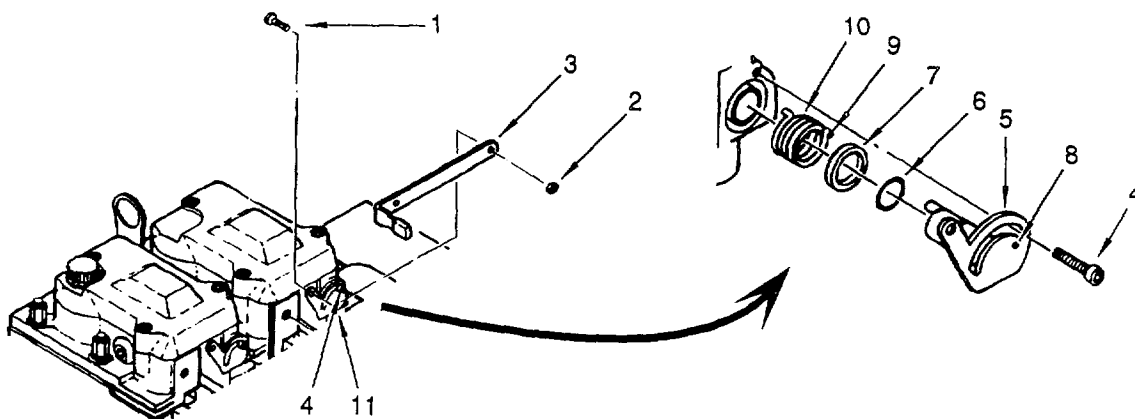

Figure 4-23. Decompression Arm O-Ring Replacement
4.14.7 Replace Decompression Arm O-Rinn. (Refer to figure 4-23.)